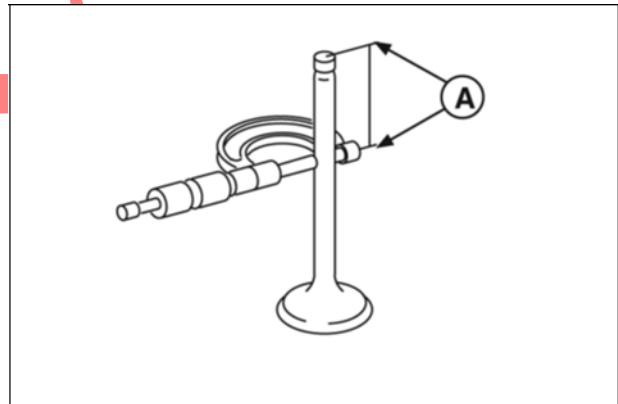

Figure 19
12. Measure valve stem diameter at specified distance from end of valve (A, Figure 19).